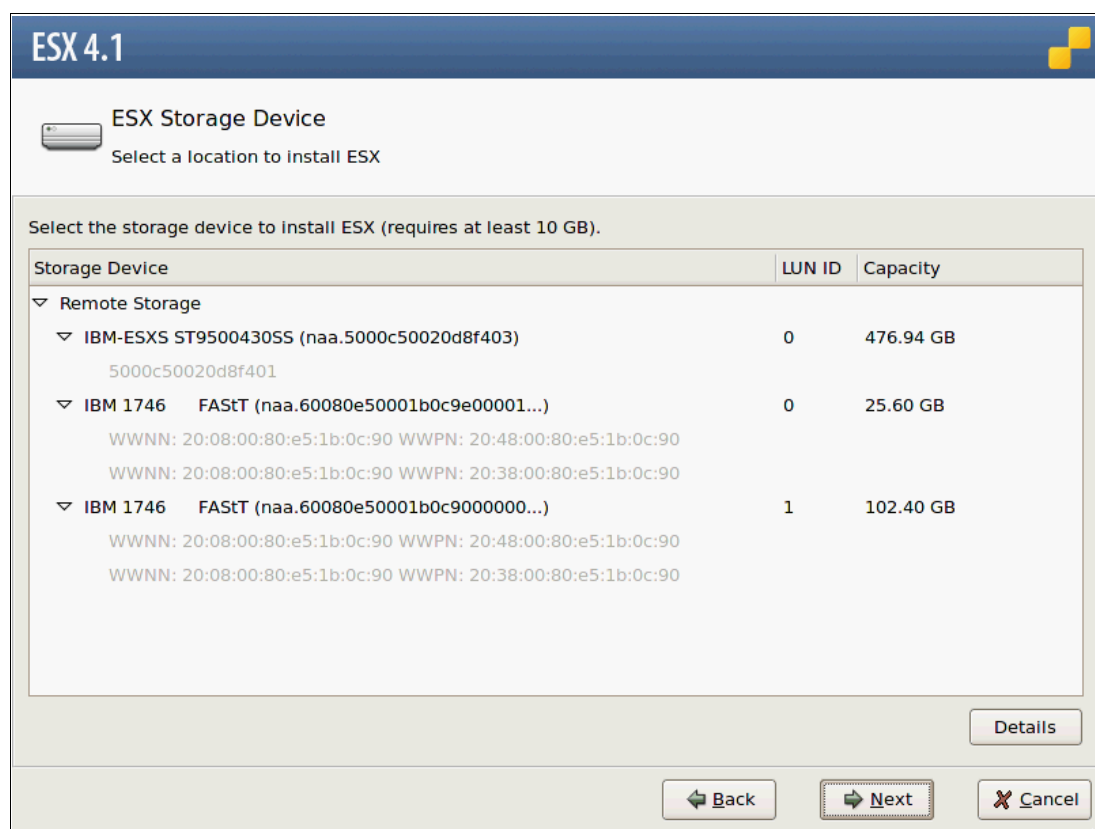

Figure 22-24 ESX Storage Device
13. Select the correct Storage location for the ESX binaries installation from the list in the ESX Storage Device window shown in Figure 22-24. In our example we have one local Harddisk and two SAN attached disk drives. Click **Next**.